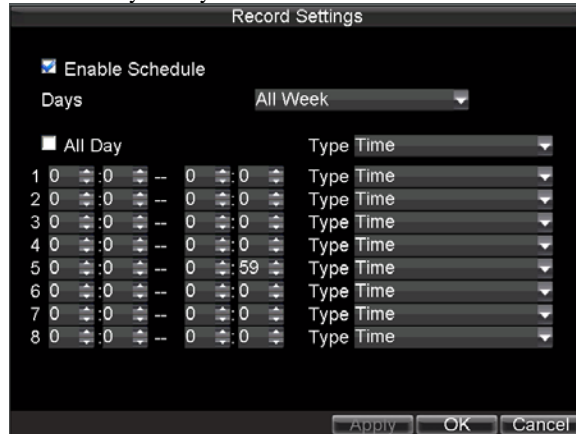

Figure 7. Edit Schedule Settings
12. Click *Edit* button to enter a new recording schedule, shown in Figure 7.